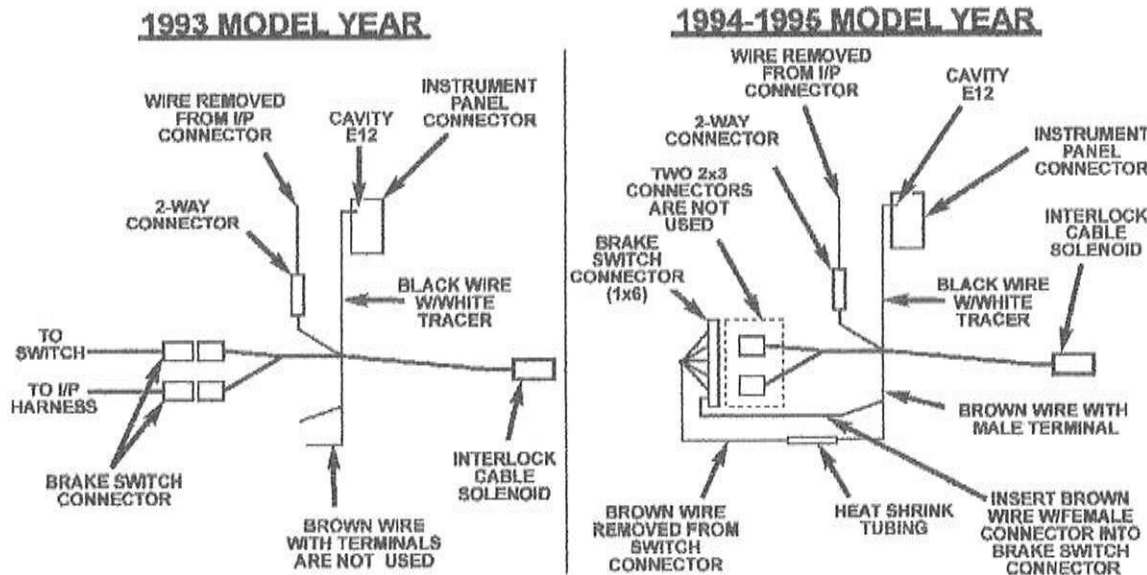

Figure 8
40. Insert the **WHITE w/BLACK** tracer wire removed from the I/P 48-way connector in Step 36 into cavity "A" of the 2-way male connector (Figure 8). Reinsert the locking wedge.
41. Connect the 2-way connector to the mating connector on the supplied wiring harness (Figure 8).
- A. Disconnect the brake pedal switch 6-way (2x3) wiring connector (Figure 8).
- B. Connect the brake switch wiring connectors to their mating halves on the new wiring harness (Figure 8).
- A. Disconnect the brake pedal 6-way (1x6) wiring connector (Figure 8).
- B. Remove the **BROWN** wire from the brake switch wiring connector (I/P wiring harness side) (Figure 8).
- C. Insert the **BROWN** female terminal wire from the supplied wiring harness into the open brake switch wiring connector position (Figure 8).
- E. Connect the removed brown wire to the **BROWN** male terminal wire on the supplied wiring harness (Figure 8). Slip the heat shrink tubing over the connection and heat with a heat gun until sealant comes out of both ends of the tubing.
45. Connect the wiring harness white 2-way connector to the solenoid on the new shift interlock cable (Figure 8).
46. Secure the new wiring harness to the existing wiring harness with the three (3) remaining tie straps.